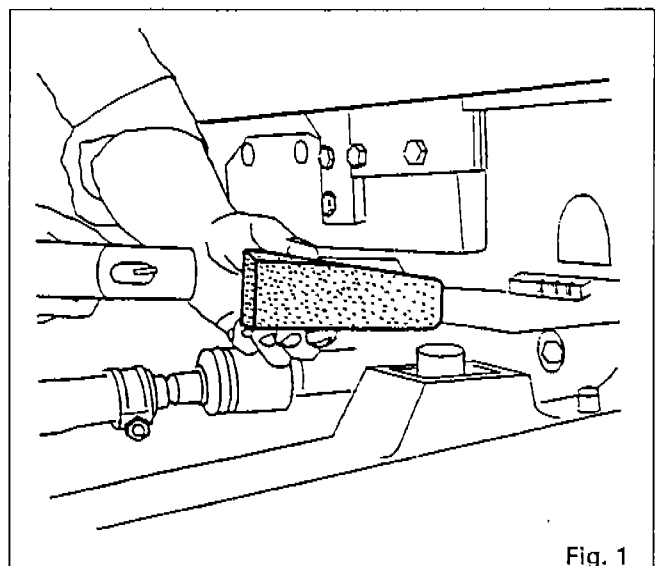

Fig. 1
The cab rear end attaching nuts (1) and locknuts (2) (see Fig. 1) must be tightened to the following torques :